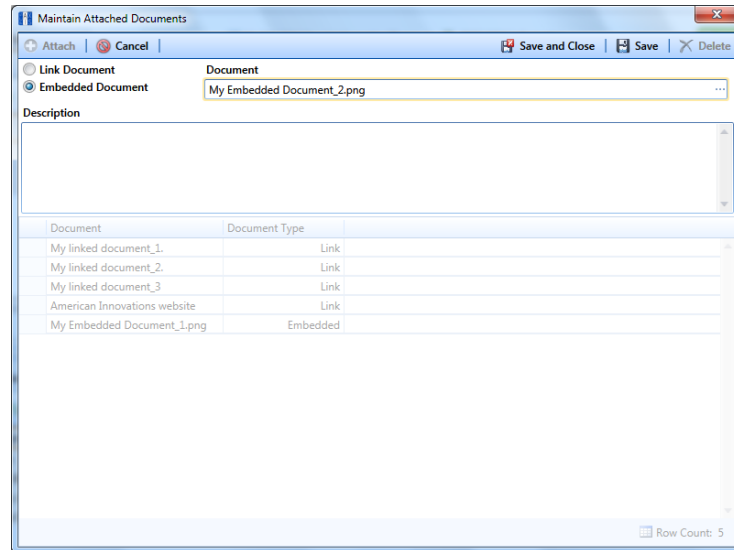

Figure 6-86. Maintain Attached Documents
- 9** If you selected *Embedded Document* in step 6, complete the following steps (Figure 6-86):